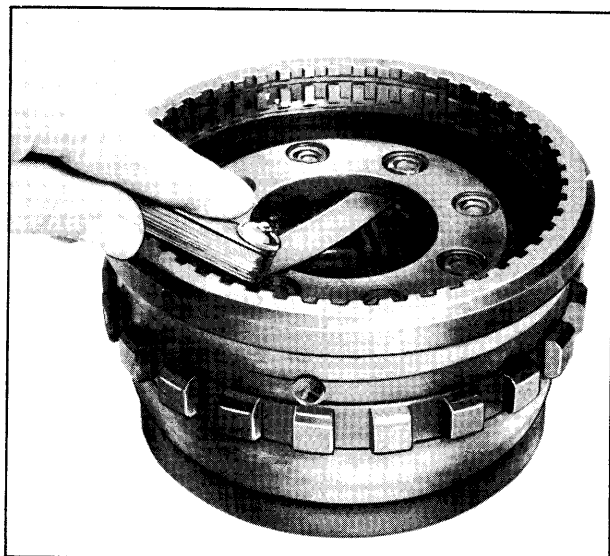

Fig. 7E-109 Checking Output Carrier Pinion End Play
7. Install four hook type oil rings. (Fig. 7E-98)